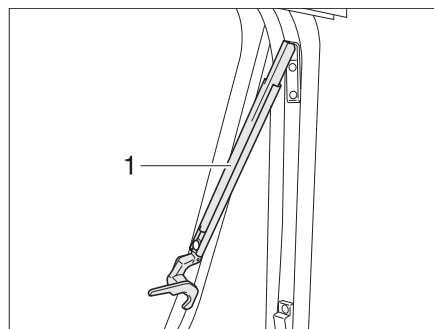

Fig. 73 Hinged window with automatic hinges, open
- Open the hinged window to the desired latched position. The automatic hinge (Fig. 73,1) locks in place automatically.